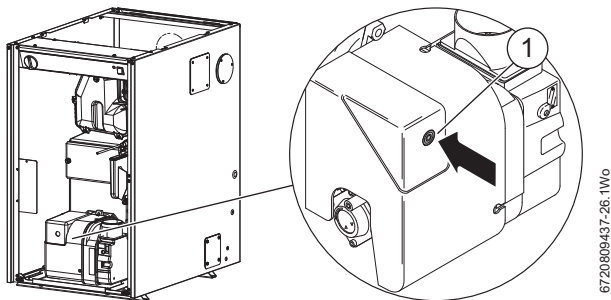

Fig. 53 Reset button
- ▶ Wait 2 minutes then press the lockout reset button [1] (see figure 53) to initiate another start sequence.